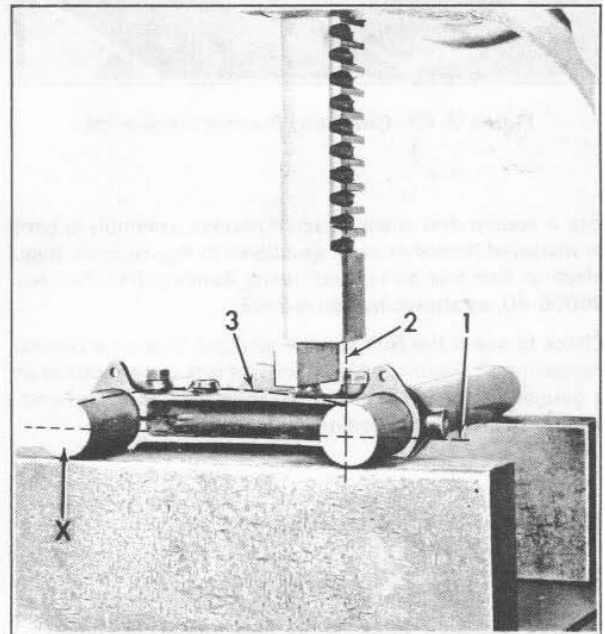
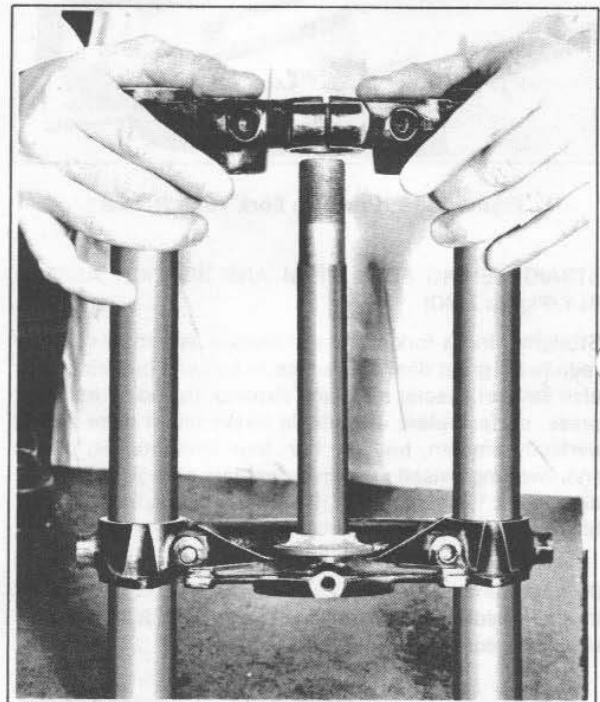

Figure 2-41. Correcting Bracket Bow
Figure 2-44. Gauging Fork Stem
Straightening a fork stem and bracket assembly not only requires a great deal of practice to become proficient, but also several special tools and fixtures, including an arbor press, surface plate or suitable heavy metal plate that is perfectly smooth, bending bar, four straightening blocks (W), two improvised steel gauging bars or legs 1-5/16 in. diameter x 12 in. length (X, Figure 2-41), two steel support blocks (Y), and several steel press blocks (Z).
Sometimes the steel bars cannot be inserted into the bracket because the holes are distorted. In this case, press the bars into position using an arbor press. Then, press on the forward edge of bracket to correct "bow shaped" distortion (3) as shown in Figure 2-41. Repeat pressing operation until bar is loose in bracket. Secure in place with two pinch bolts.
A bracket assembly is usually out of alignment from a horizontal centerline (1) with both legs bent or just one leg bent. (See Figure 2-41).
Check to see if the fork stem is straight, true on a vertical centerline (2, Figure 2-41) by using a fork upper bracket as a gauge (Figure 2-44). If not, place in vise and use Bending Bar to bring into position.